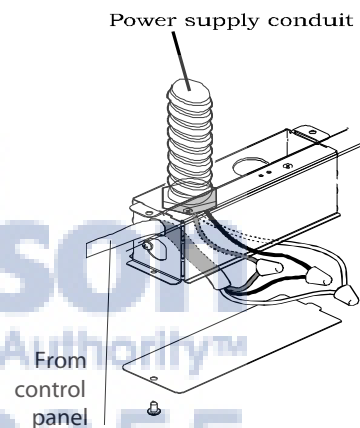

Figure 5
- Remove the j-box cover as shown in Figure 5.